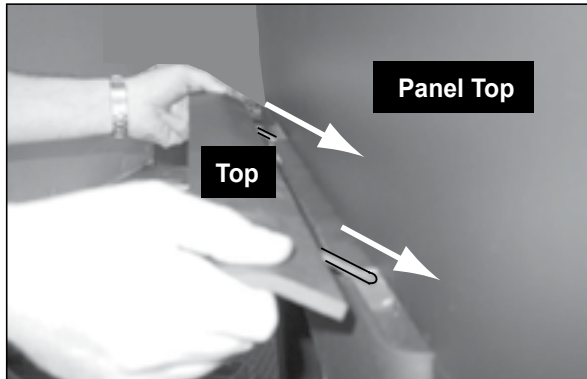

Figure 14.1
1. Remove the insert top (if installed) by lifting up slightly then pulling towards you and set aside. **See Figure 14.1 on page 14.**